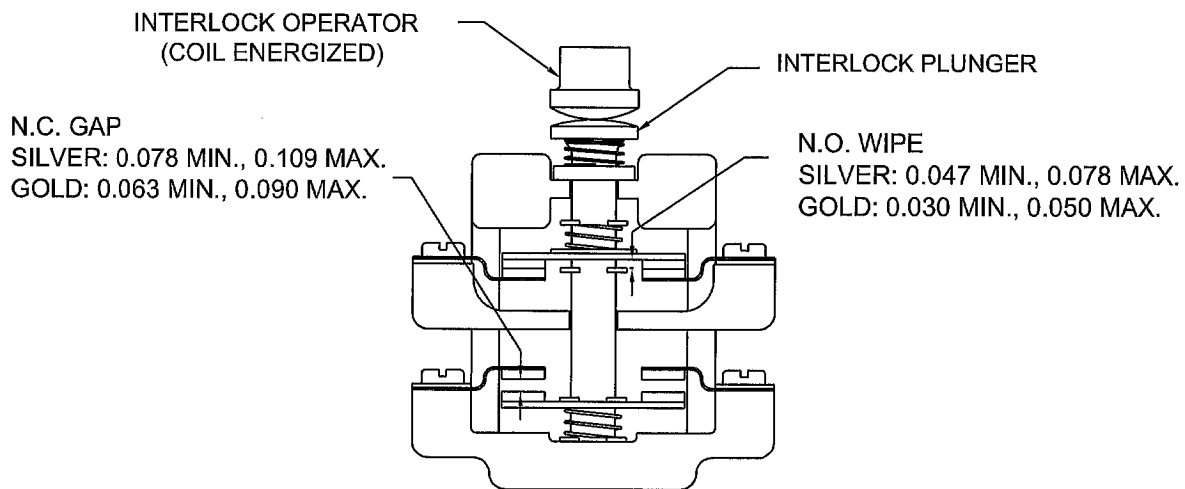

FIGURE 4
3.2. Energize the coil and adjust interlock gap and wipe. Reference figure 4.